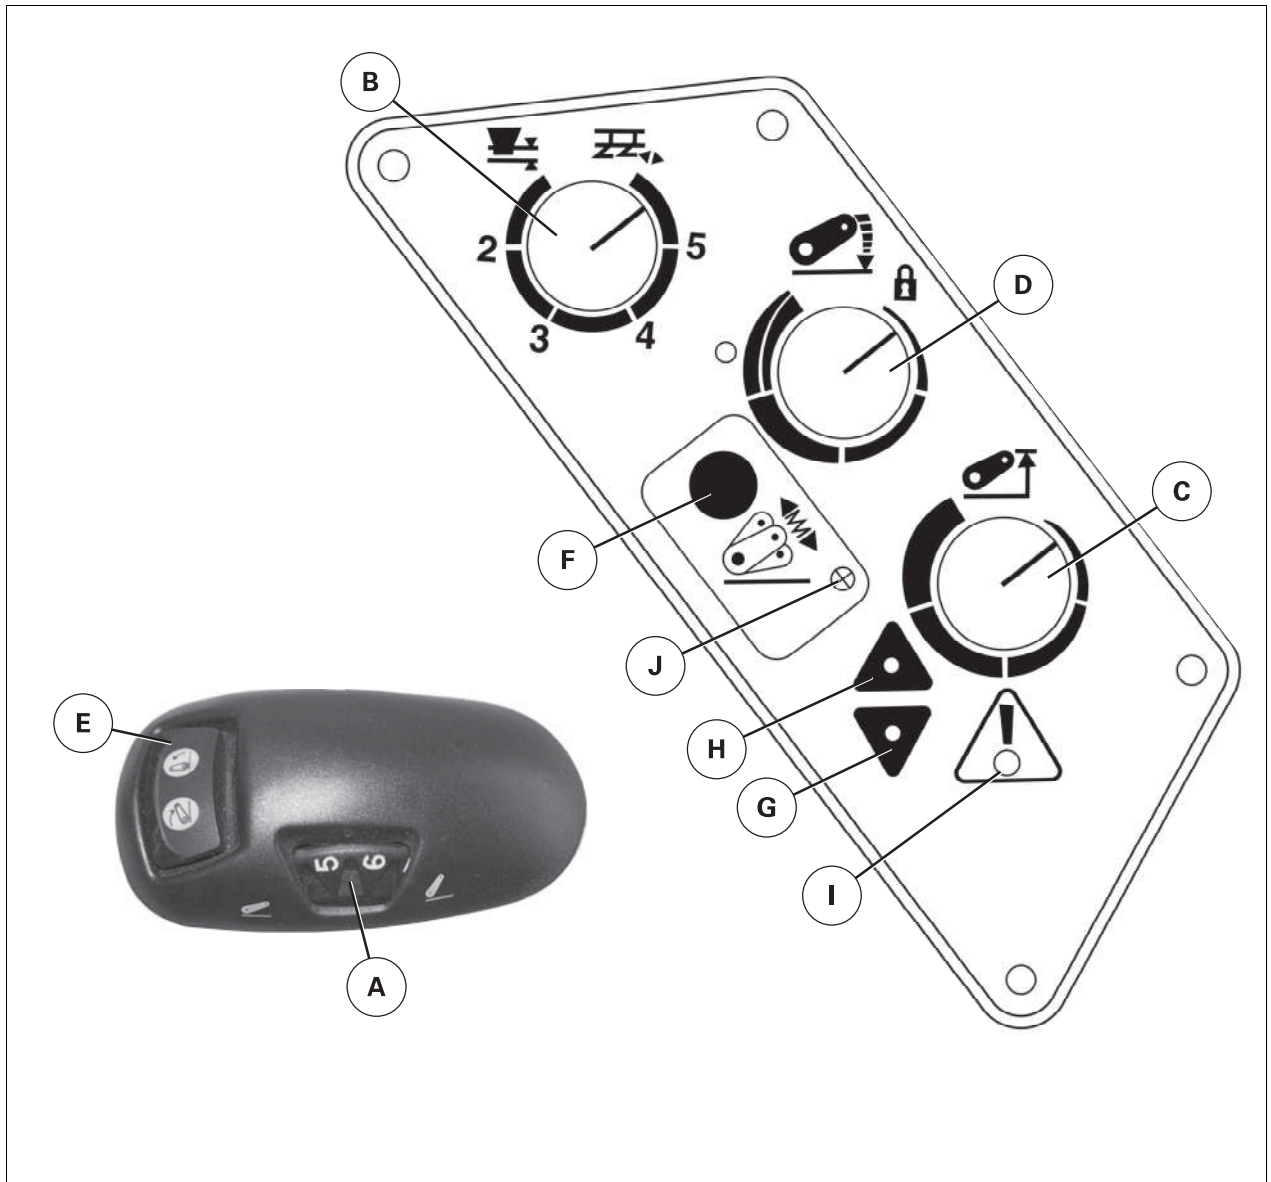
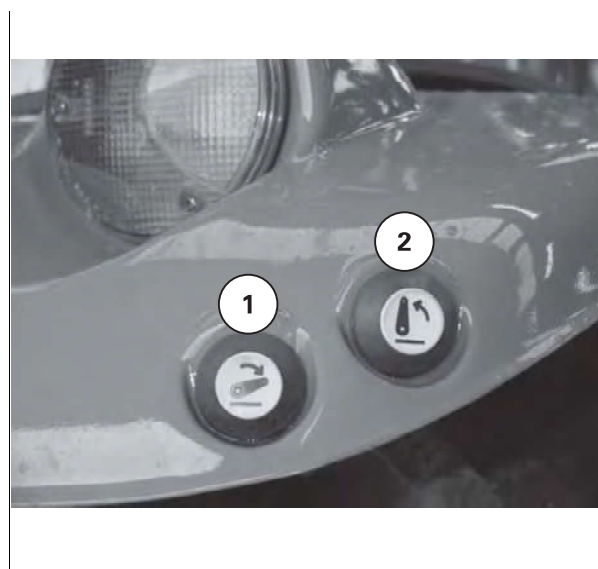

Fig. 2.
Fig. 3.
**NOTE:** To use the external controls fig. 3, the Lift/Lower selector switch (E) fig. 2 must be in Neutral or Lower position.
When the external control is used, the controls in the cab are locked. To unlock them, move the selector switch (E) fig. 2 to Lift then Lower.